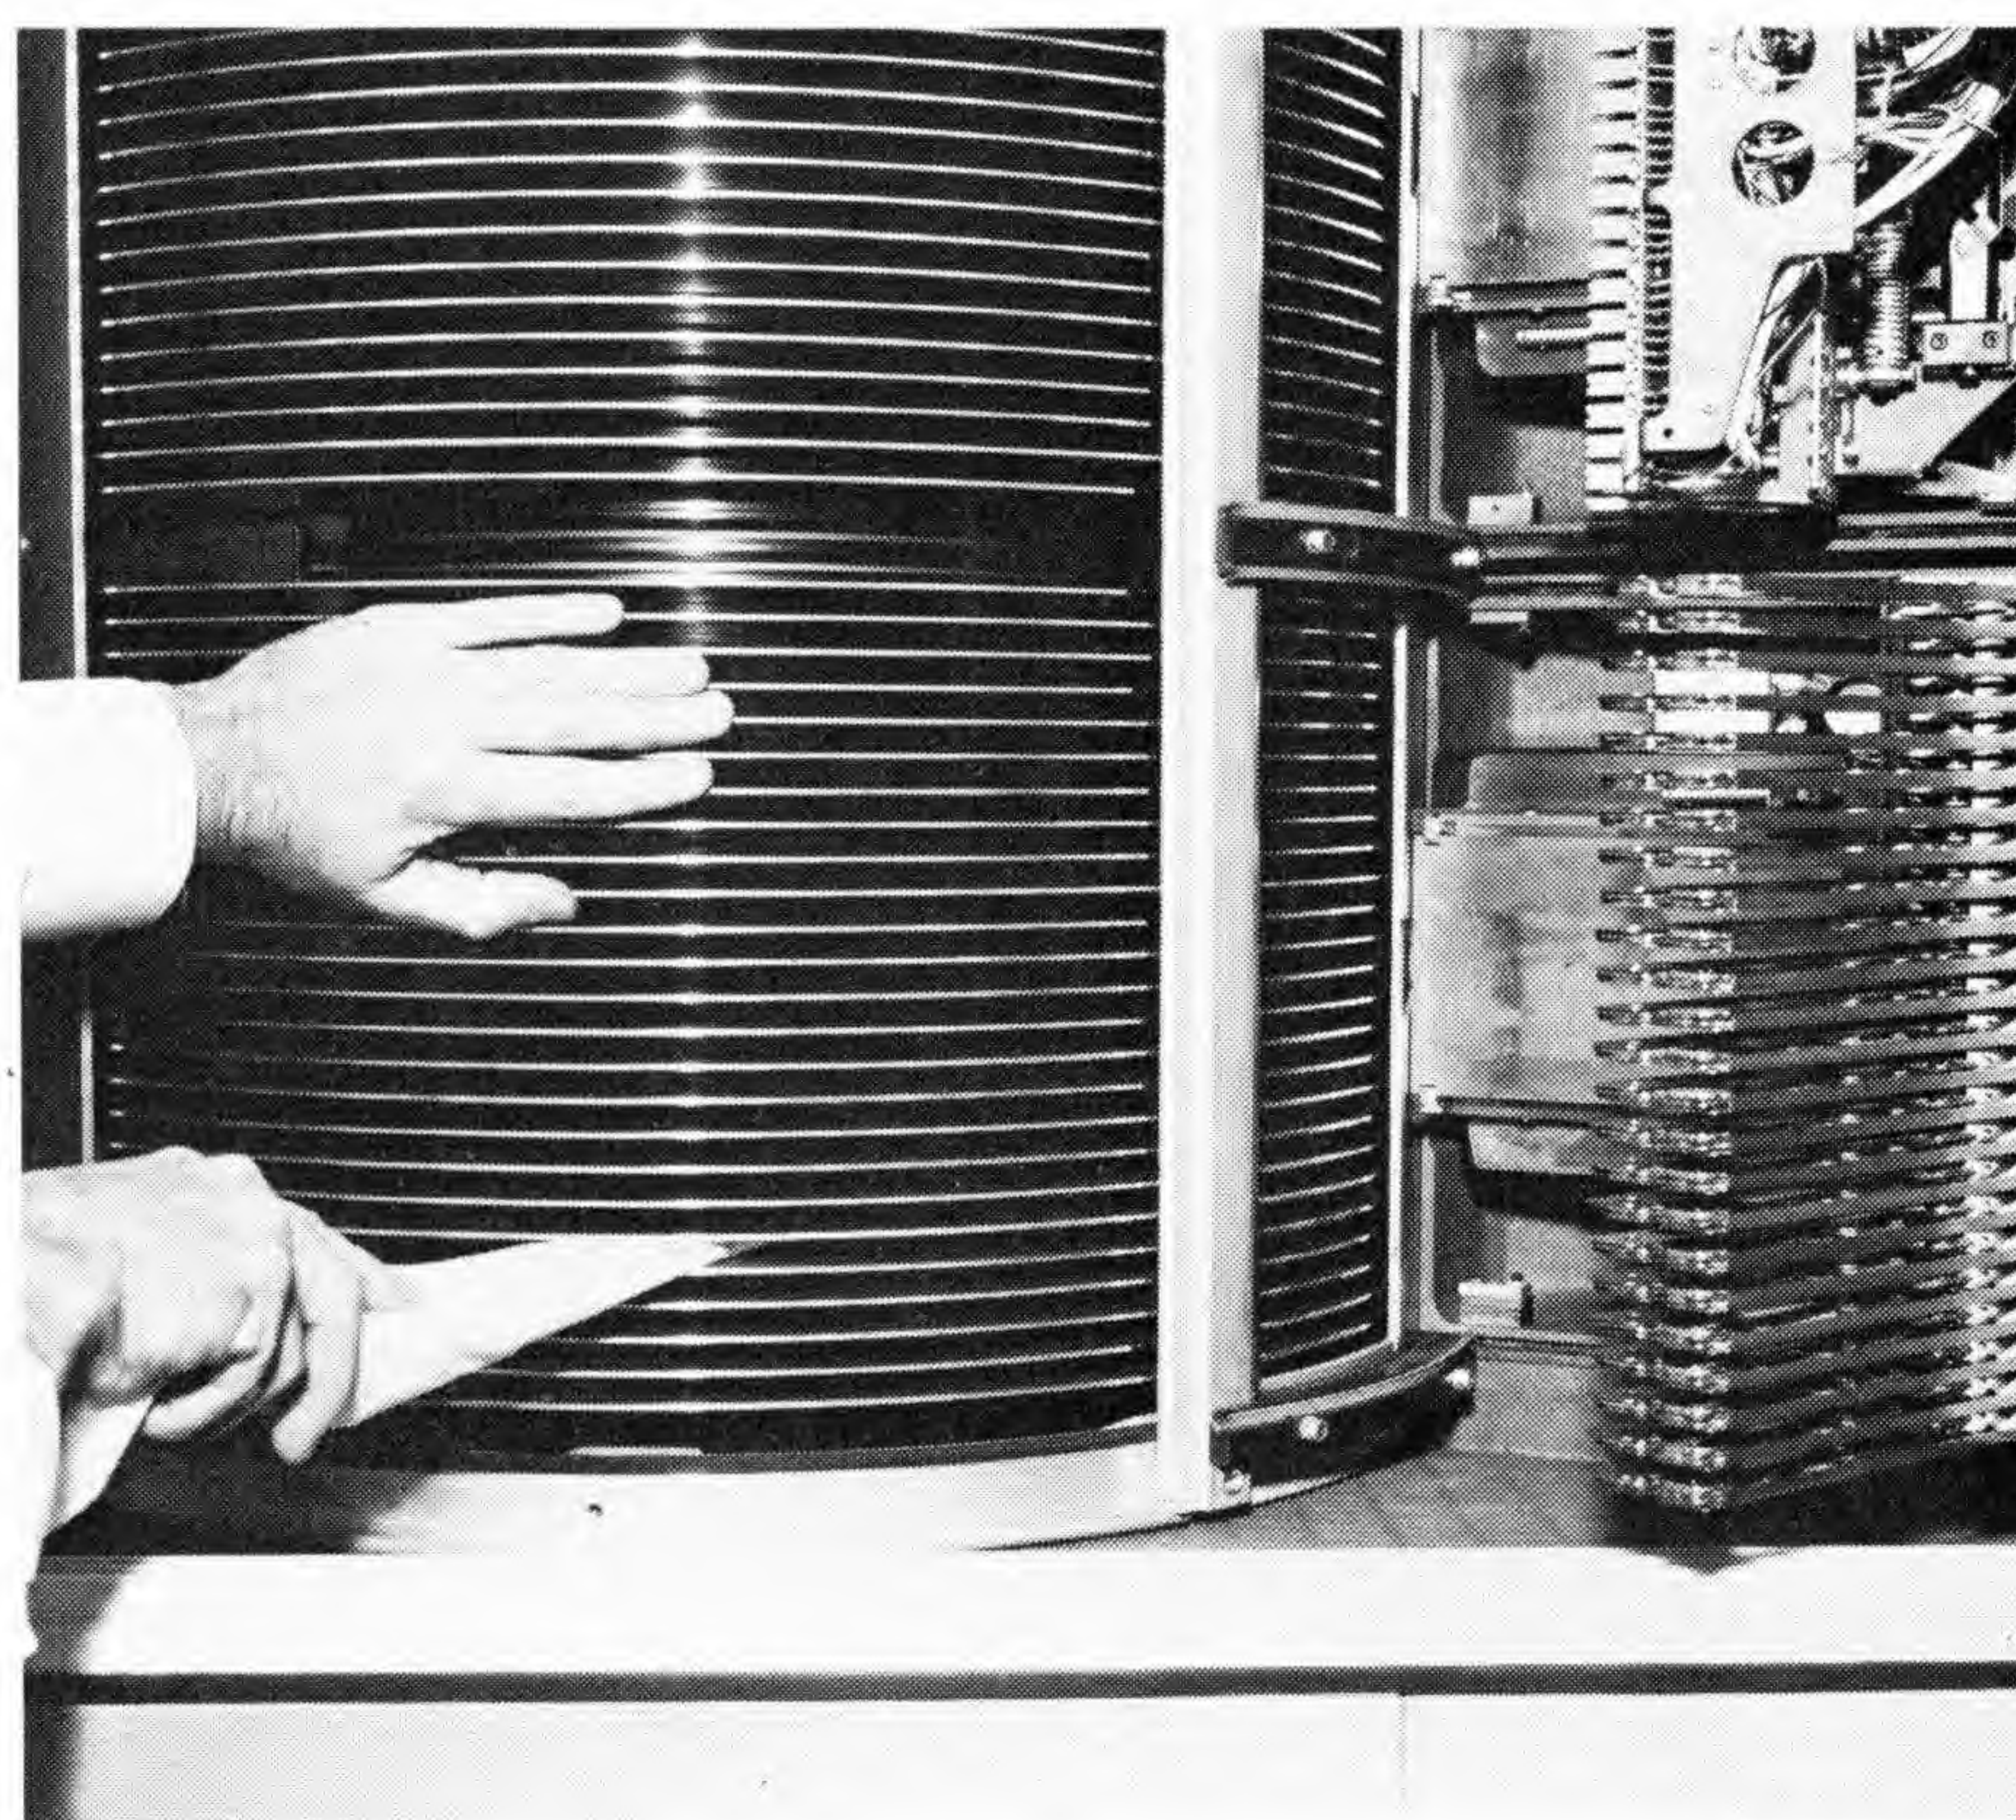

Figure 3-5 Cleaning Disks
3. Place paddle between disks and rotate the disk array manually (Figure 3-5). If the surfaces of the disk are wet after cleaning, too much alcohol was used on the tissue, and the disks should be cleaned again properly.